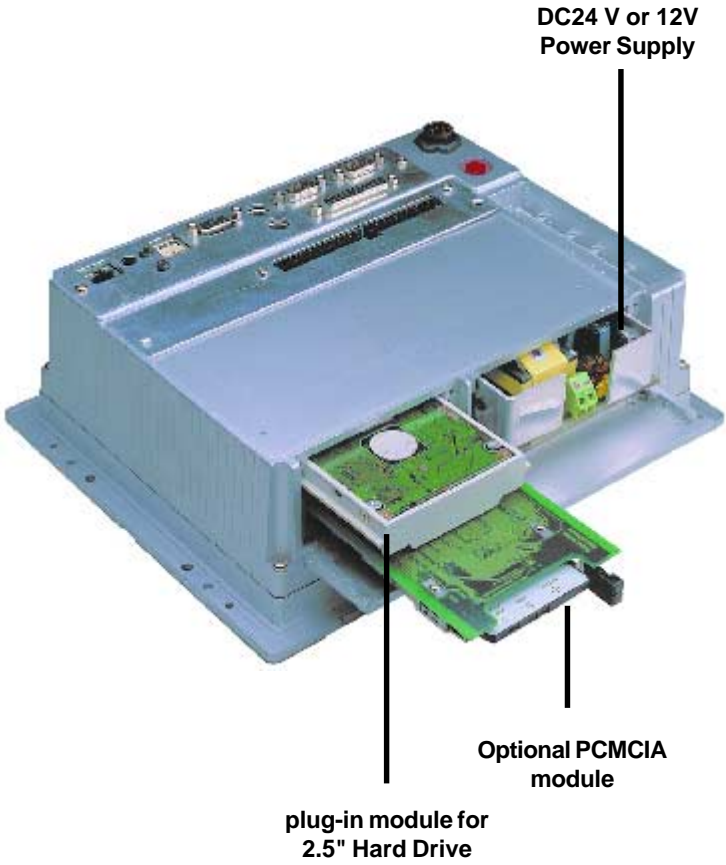

Figure 2-5: Install or remove the power supply,HDD drive,and PCMCIA module (A84)
4. Unscrew the two screws of the cover on the top side of PPC-A84/A120 (See Fig.2-5). Open the cover.